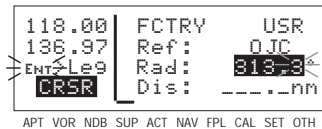

Figure 4-93
9. Use the right inner and outer knobs to select the desired radial. Notice that you may enter the angle down to the tenth of a degree (figure 4-93).